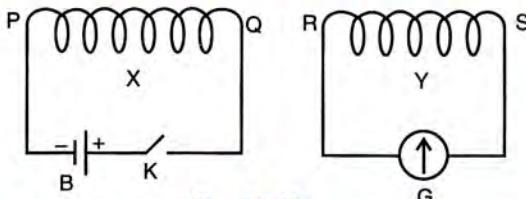

Fig. 10.40
- 3. The diagram in Fig. 10.40 shows two coils X and Y. The coil X is connected to a battery B and a key K. The coil Y is connected to a galvanometer G.**